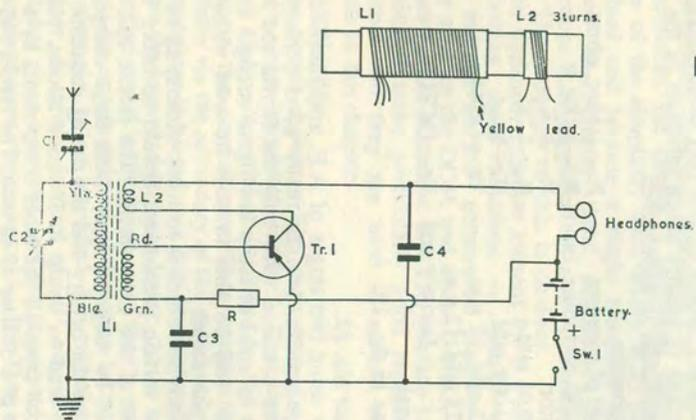

Fig. 29. Circuit No. 19. Single transistor regen. detector.
The circuit shown in Fig. 29 is that of a very simple single transistor receiver. The signal is picked up by the aerial and selected by the tuned circuit in the normal way. It is coupled to the transistor via the secondary of the aerial coil. Since the transistor is biased to a low level of collector current the input is fairly non linear, that is to say, a negative signal is amplified more than a positive one, and a certain amount of detection takes place and gives rise to an amplified A.F. signal in the collector. A certain amount of R.F. amplification also takes place, however, and this is coupled back to the tuned circuit by means of  $L_2$ . It is then added with the input signal and contributes to the output. If it were not for this regeneration the
There are quite a large number of methods of controlling regeneration or feedback and this circuit shows an alternative to that of Fig. 29. Apart from the methods of feedback the two circuits are virtually identical and will give the same performance.
$L_2$ —as in fig. 29.
- $L_2$ —as Fig. 29.